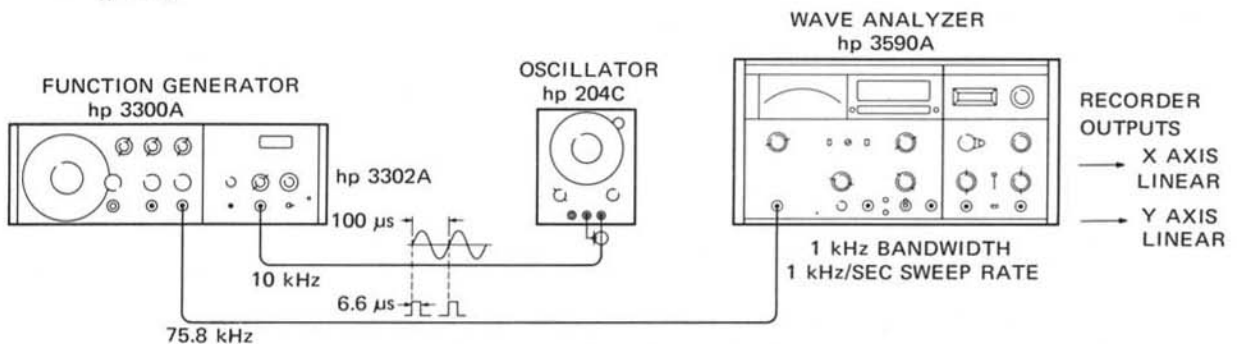
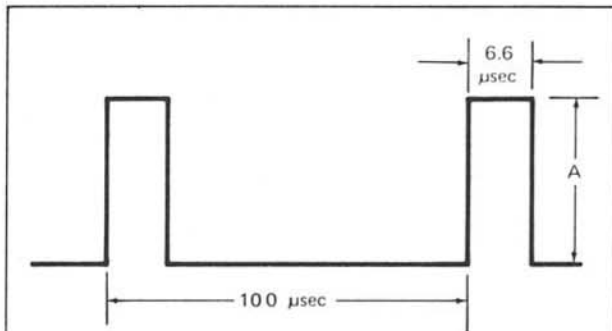

Figure 5 — Instrument setup for rectangular pulse evaluation.
Figure 6 — Pulse train to be evaluated.
The first application of the HP 3590A Wave Analyzer is more demonstrative than practical; it serves to show the time-to-frequency-domain converting ability of the instrument. The instrumentation arrangement is as shown in Figure 5. This arrangement will provide a rectangular pulse 6.6 μs in duration every 100 μs.
in such a way as to permit mathematical analysis of wave forms such as the one produced by the equipment setup of Figure 5. Typical of such simplifications is the expression given in Equation (4).
The signal produced by the generator in Figure 5 would appear on an oscilloscope (in the time domain) as shown in Figure 6.